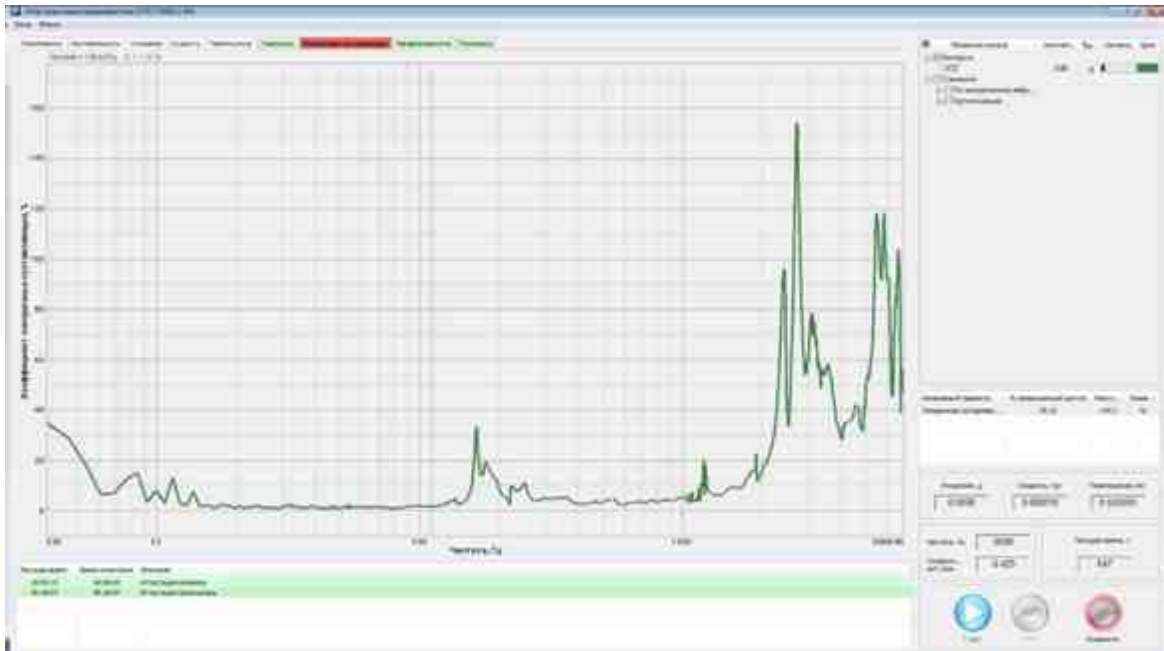

Fig. 6.9 Transverse Component tab
4. At the end of the sine signal oscillation within the rated frequency range, the results recorded will be displayed (in numerical and graphical forms) on the Transverse Component tab (Fig. 6.9).